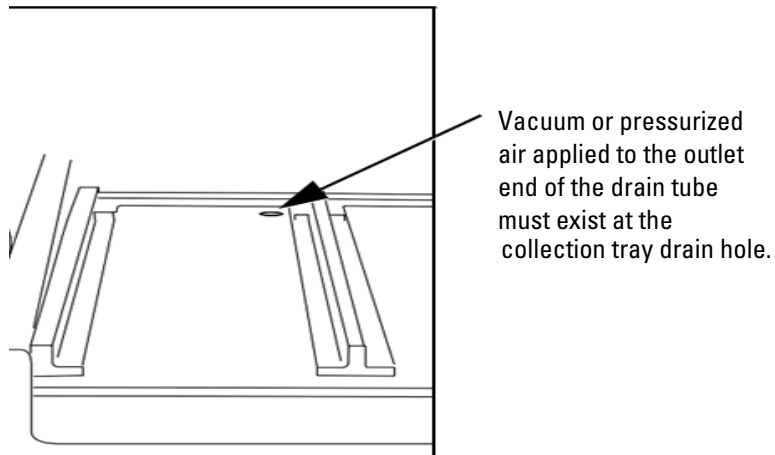

Figure 6-1 Fraction collection tray drain hole
2. Test the collection tray drain by connecting a vacuum or air supply source to the outlet end of the drain tubes. Then, verify the presence of such vacuum or air supply source on the drain hole (Figures 6-1).